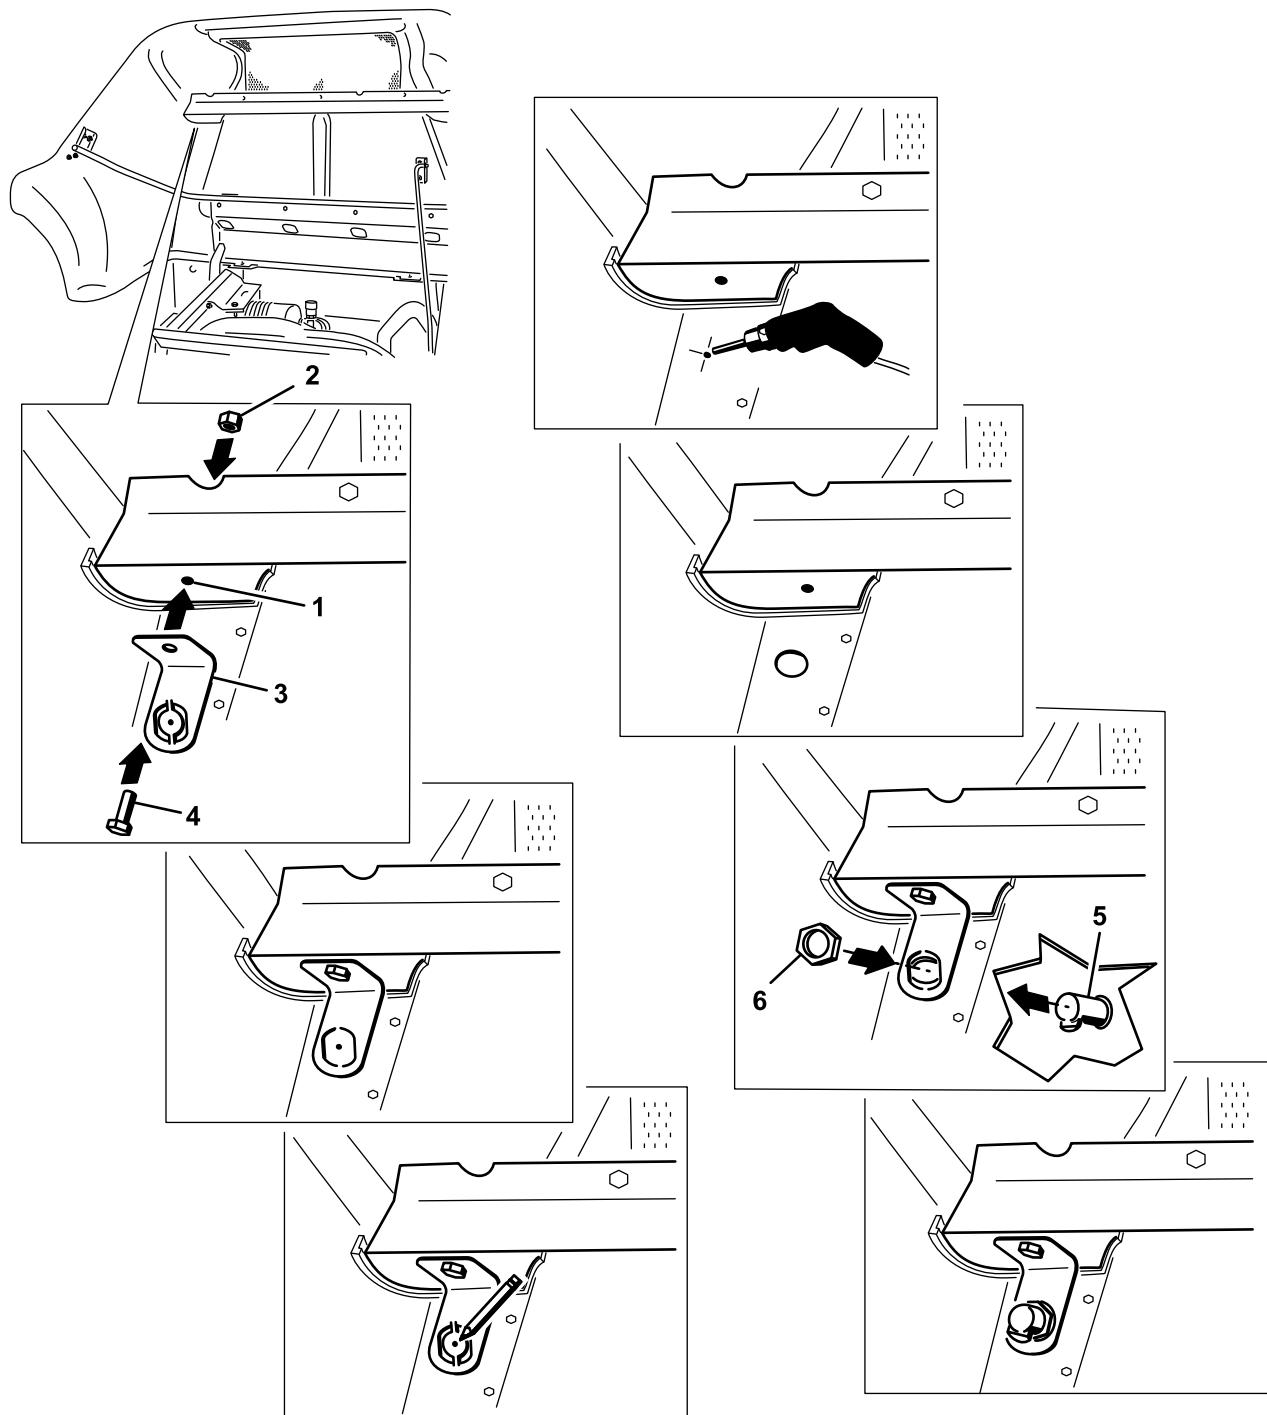

Figure 1
4. Install the latch support using a bolt (5/16 x 3/4 inch) and locknut (5/16 inch) as shown in Figure 1.
9. Install the latch support to the frame using the bolt (5/16 x 3/4 inch) and locknut (5/16 inch) as shown in Figure 1.
11. Install the lock assembly through the hood and the latch support, with the catch facing the forward (Figure 1).
12. Install the locking nut onto the bottom of the lock assembly to secure it in place (Figure 1).